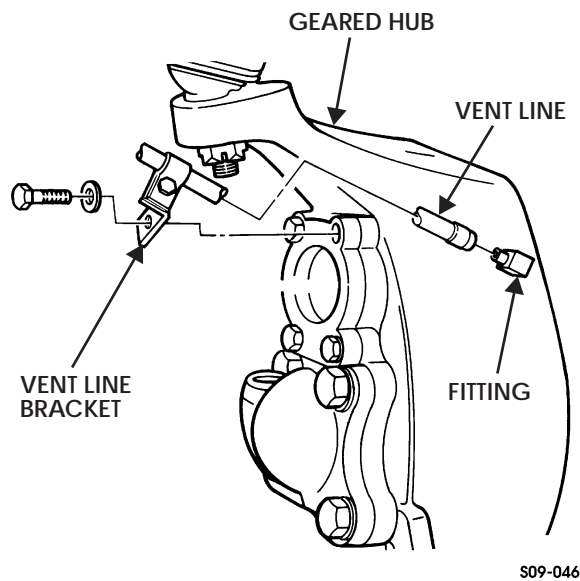

Figure 9-7: Vent Line Connection
2. Remove capscrew and washer securing vent line bracket to geared hub (Figure 9-7).
6. Connect vent line to fitting (Figure 9-7).